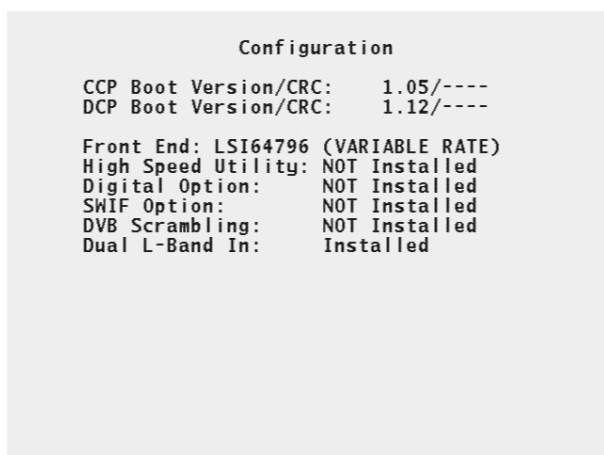

Figure 3-7. Configuration menu
- Step 2.** Press 8 to display the Configuration menu (see Figure 3-7).